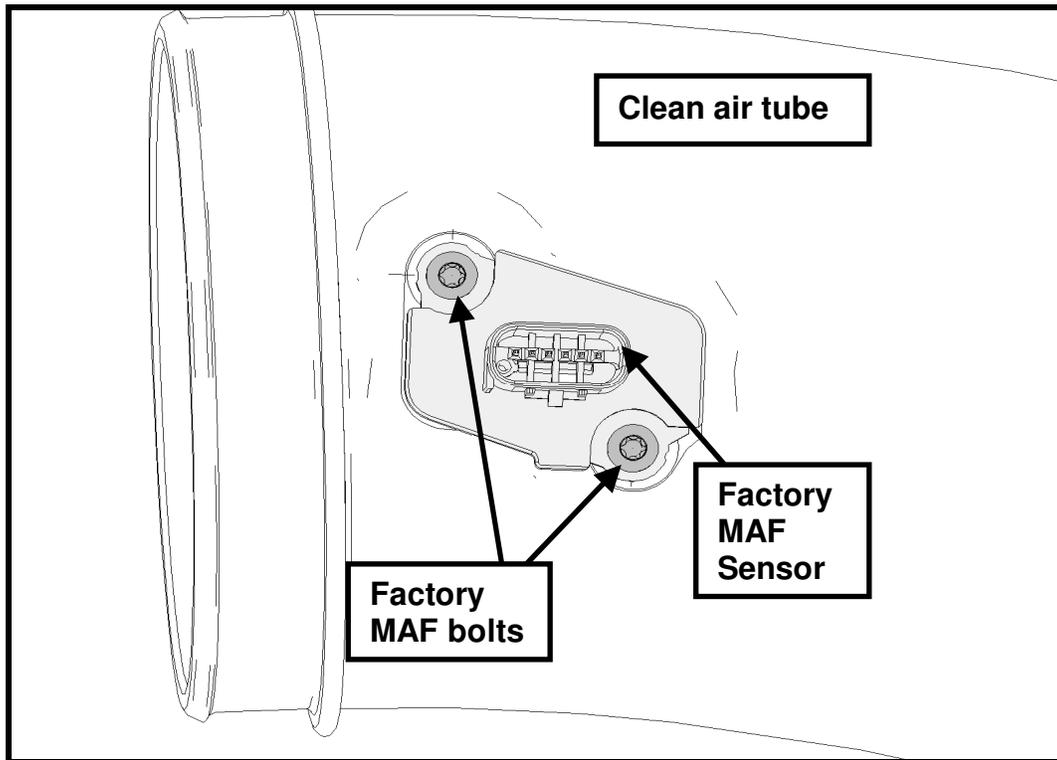

Fig. 4
**STEP 1:** Install the MAF sensor using the bolts, item 11, into the new clean air tube (R07060101). Torque the bolts to 4 Nm (35 lb in) (See Fig. 4).